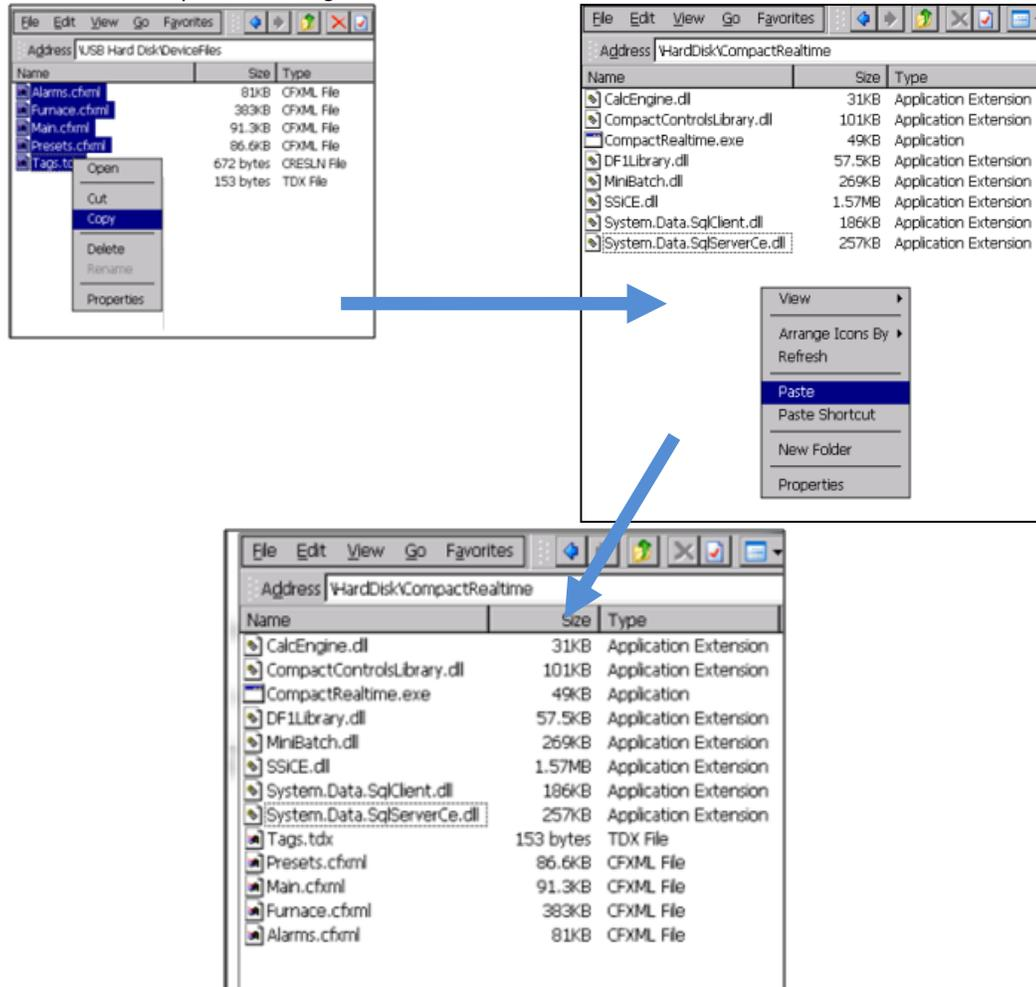

Figure 60 - Copying Device Files to CompactRealtime Folder
- Double-tap on **My Device** on the touch screen desktop. Remove any .cfxml and .tdx files from the \CompactRealtime folder. Then copy the device files from the storage medium to the drive from which the touch screen runs Compact HMI (this is typically the drive from which the touch screen runs the SSi controller application). The destination folder will be the \CompactRealtime folder on the destination drive. An example of this procedure is depicted in Figure 60.